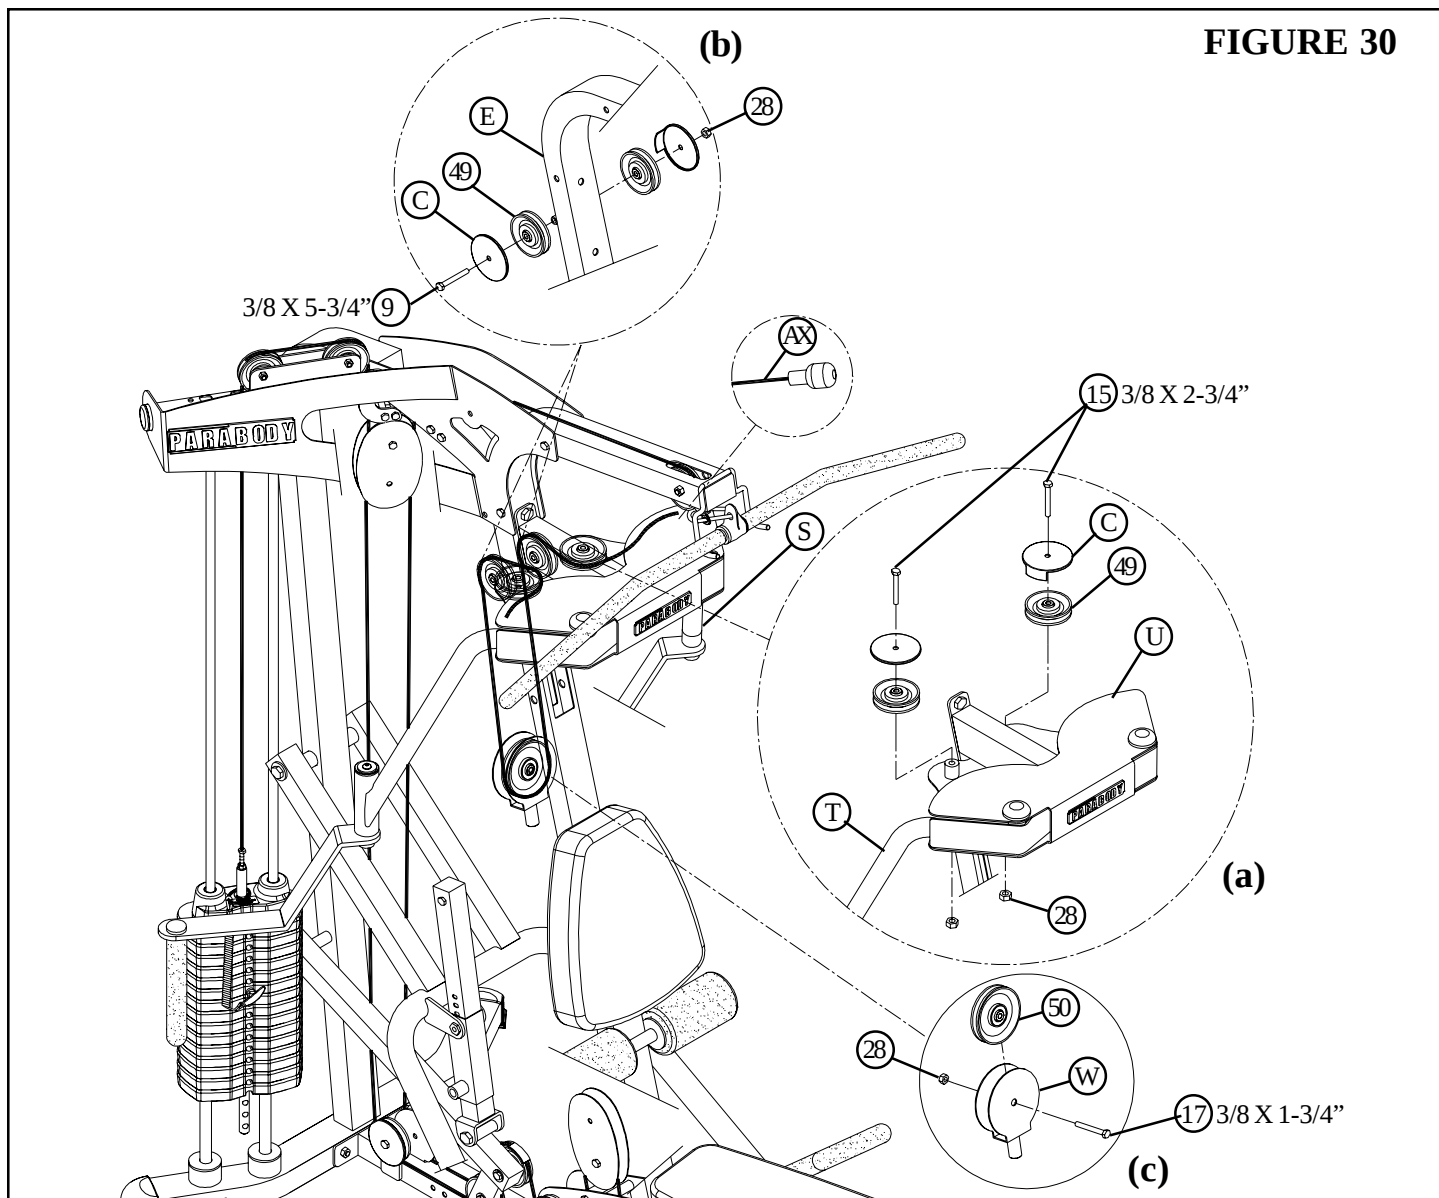

**FIGURE 29**
- Assemble one 3-1/2" PULLEY (49) to the bracket on the BASE (A) using one 3/8 X 2-1/4" BOLT (52), one 3-1/2" PULLEY GUARD (C), one 3/8" SPACER (31) and one 3/8" LOCK NUT (28). See FIGURE 29(a) (**Note: Loop the LOW CABLE (45) around the PULLEY prior to assembling the PULLEY to the BASE .**)
- Assemble one 3-1/2" PULLEY (49) to the tube on the BASE (A) using one 3/8 X 3" BOLT (14), one 3/8 WASHER (23) one 3-1/2" PULLEY GUARD (C), one 13/32" SPACER (33) and one 3/8" LOCK NUT (28). See FIGURE 29(b) (**Note: Loop the LOW CABLE (AW) around the PULLEY prior to assembling the PULLEY to the BASE .**)
- Assemble one 3-1/2" PULLEY (49) to the PRESS LOAD ARM (AE) using one 3/8 X 3-1/2" BOLT (12), one 3/8 WASHER (23) one 3-1/2" PULLEY GUARD (C) and one 3/8" LOCK NUT (28). See FIGURE 29(b) (**Note: Loop the LOW CABLE (AW) around the PULLEY prior to assembling the PULLEY to the PRESS LOAD ARM .**)
- Assemble one 3-1/2" PULLEY (49) and one 3-1/2" PULLEY GUARD (C) to the BASE (B) using one 3/8 X 2-1/4" BOLT (52), one 3/8 X 7/16" SPACER (33) and one 3/8" LOCK NUT (28). See FIGURE 29. (**Note: Loop the LOW CABLE (AW) around the PULLEY prior to assembling the PULLEY to the BASE.**)
- Route the LOW CABLE (AW) around one 3-1/2" PULLEY (49) and assemble to the horizontal bracket on the FOOT FRAME (F) using one 3/8 X 1-3/4" BOLT (17), one 3-1/2" PULLEY GUARD (C) and one 3/8" LOCK NUT (28). See FIGURE 29(c)
- Route the LOW CABLE (AW) under one 4-1/2" V-GROOVE PULLEY (51) and assemble the 4-1/2" V-GROOVE PULLEY (50) to the vertical bracket on the FOOT FRAME (F) using 3/8 X 2-3/4" BOLT (15) and one 3/8" LOCK NUT (28). See FIGURE 29(c)